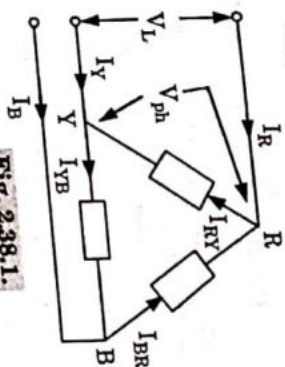

Fig. 2.38.1.
1. Consider a balanced delta connected load as shown in Fig. 2.38.1.